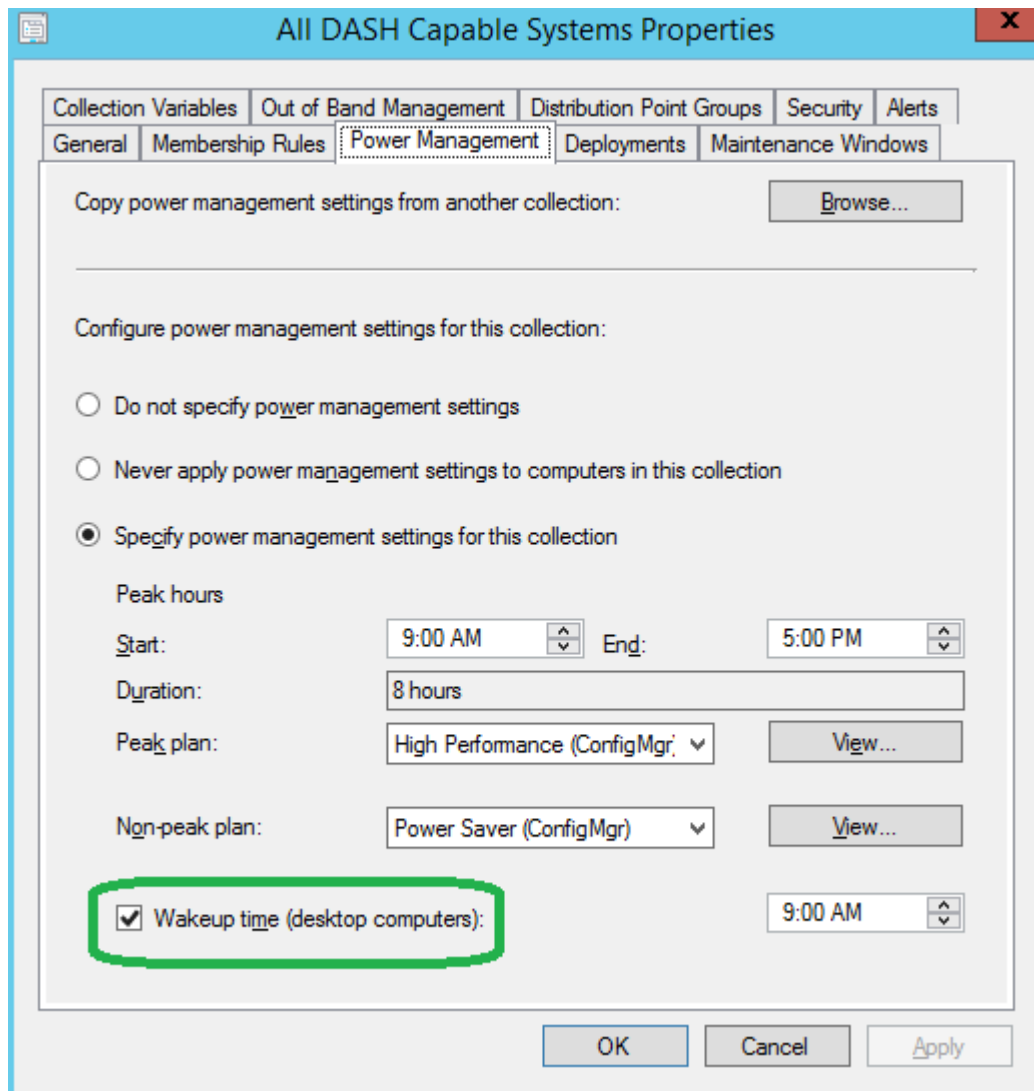

Figure 30: Scheduled Power Control
1. Utilize the MEM's **Power Management** feature screen as illustrated in Figure 30.
- AMPS looks for the status of the **Wakeup time** checkbox in MEM's power management feature screen and the **DASH Wakeup** checkbox in the **DASH Configuration** screen (refer to Figure 30).